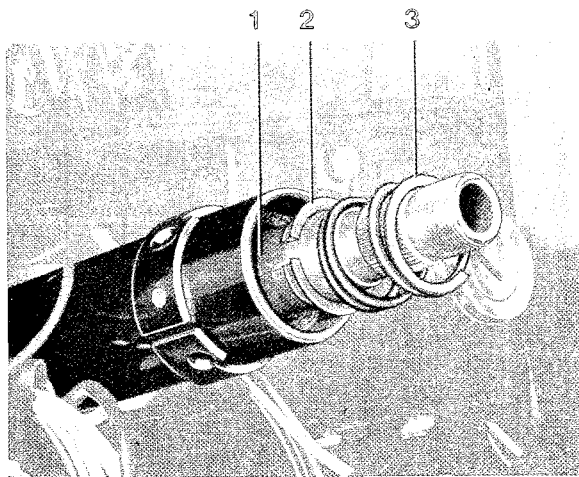

Fig. 6-54. Replacing upper bearing
4. Pull out the spring and seat, see Fig. 6-54.